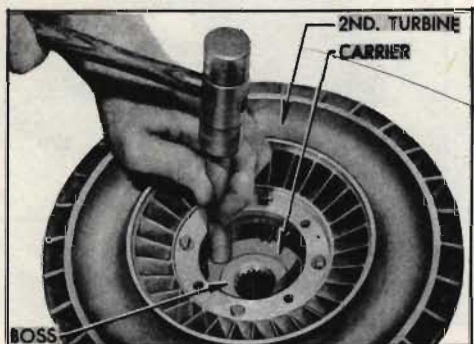

Fig. 11. Removing carrier from turbine
- Use care in separating the second turbine from the carrier if it becomes necessary to replace one of the units. Support second turbine and tap carrier from counterbore with a soft punch (Fig. 11).